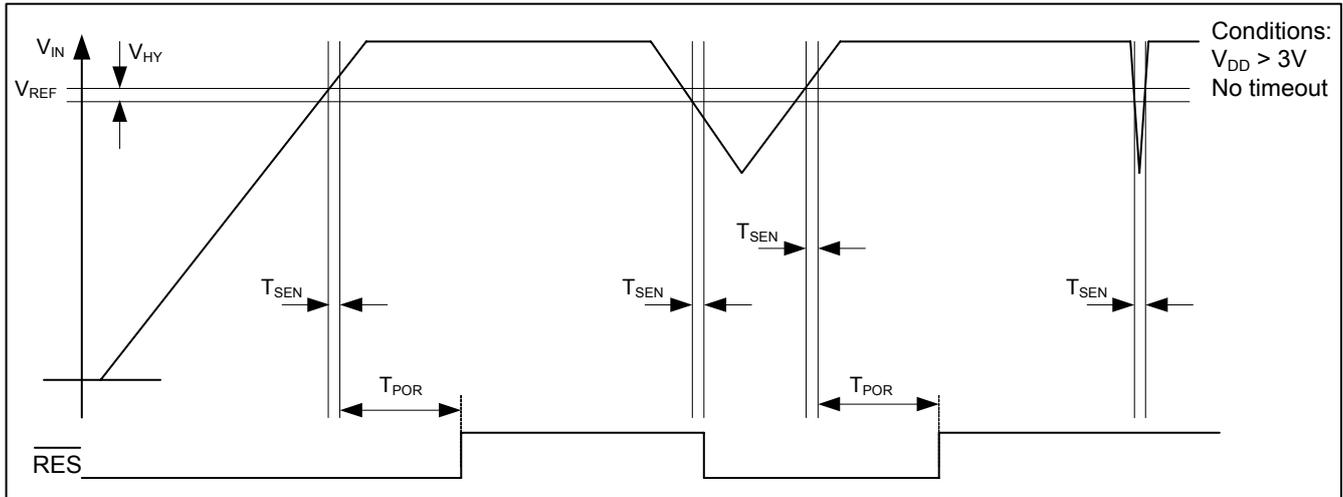

Fig. 5
**Note 2:** the comparator reference is the power-down reset threshold. The power-on reset threshold equals the comparator reference voltage plus the comparator hysteresis (see Fig. 5).
At power-up the reset output ( $\overline{\text{RES}}$ ) is held low (see Fig. 5). When VIN becomes greater than VREF, the  $\overline{\text{RES}}$  output is held low for an additional power-on-reset (POR) delay TPOR (defined with the external resistor connected at ROSC pin). The TPOR delay prevents repeated toggling of  $\overline{\text{RES}}$  even if VDD voltage drops out and recovers. The TPOR delay allows the microprocessor's crystal oscillator time to start and stabilize and ensures correct recognition of the reset signal to the microprocessor.